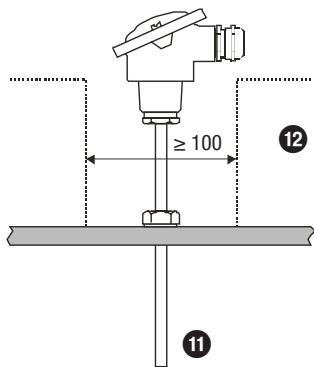
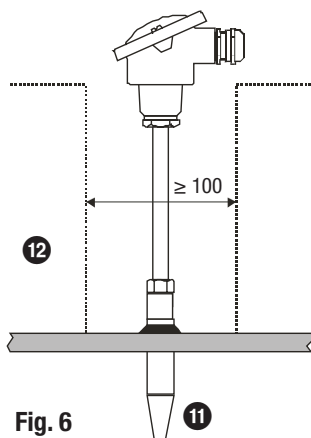

Fig. 5
Fig. 6
- Do not completely insulate the temperature sensor. See examples of installation in vessel **Fig. 5 and Fig. 6**